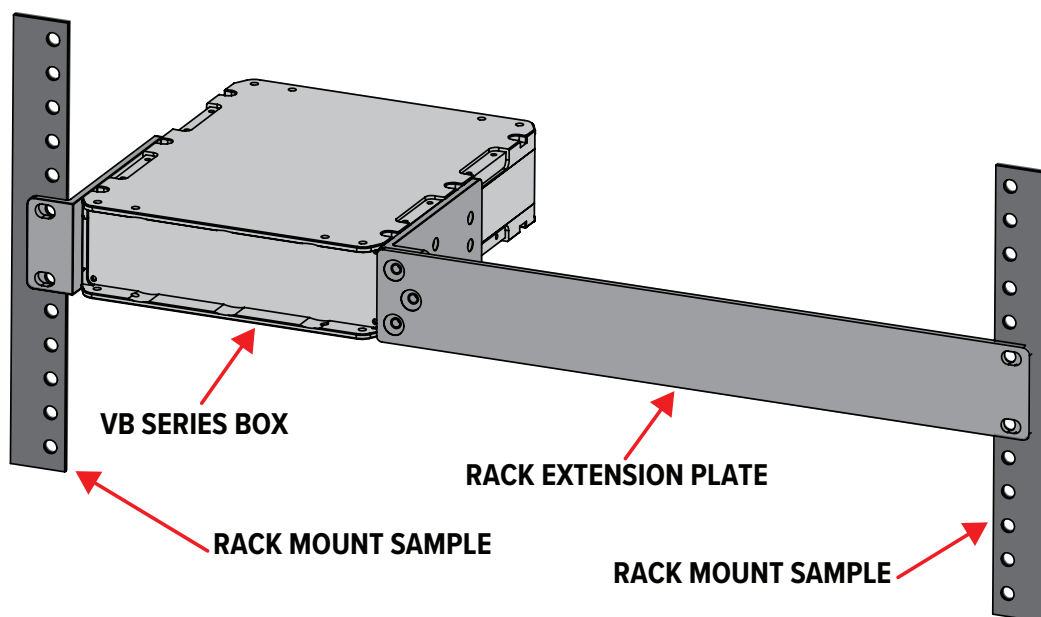

Figure 22. Single VB Box Horizontal Rack Mounting.
1. Place the VB Boxes on a clean flat surface, see Figure 22. At the rack where the VB Box is to be located make sure all wiring and loose equipment has been cleared away to avoid any obstructions. Make sure the front and rear portions of the rack are clear so that the wiring can be routed to the VB Box.